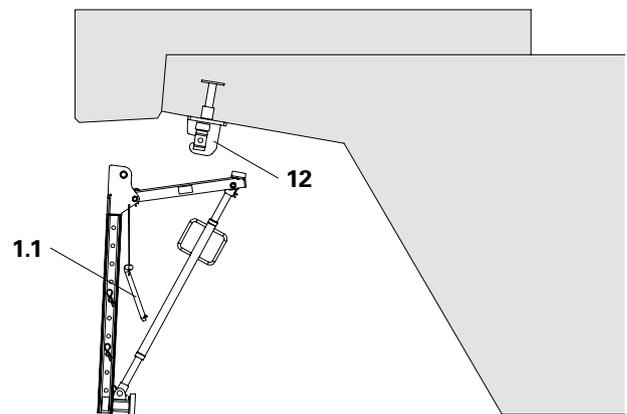
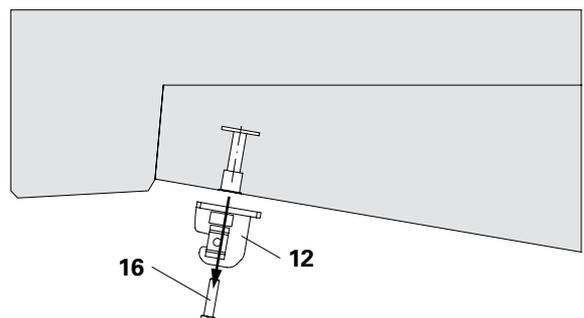

Fig. C3.04
Fig. C3.05
1. Remove locking pins $\varnothing 20 \times 260$ (1.1) from the Suspension Head VGK (12) and remove Bracket Unit. (Fig. C3.04)
3. Remove bolt ISO M24 x 100-8.8 (16) and remove Suspension Head VGK (12).
4. Close anchor holes, e.g. with Cone FRC, see Section A5. (Fig. C3.05)